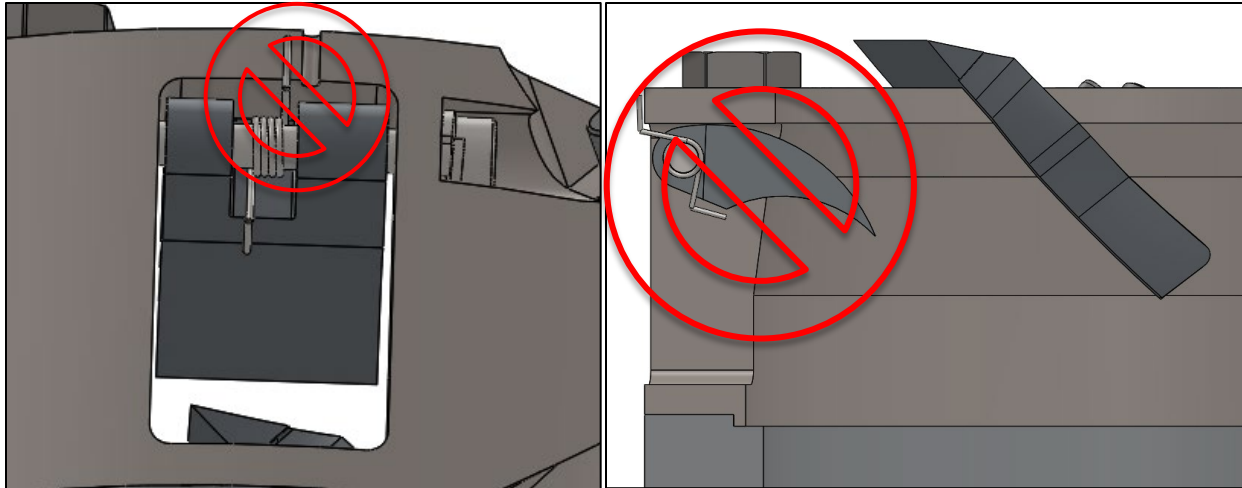

Figure 10: Incorrect Core Dog Installation
5. Bend both ends of the core dog spring back against the core dog and cutter head, respectively (Figure 10).
6. Using the side cutting wire cutters, snip off the long ends of the core dog spring (Figure 10).